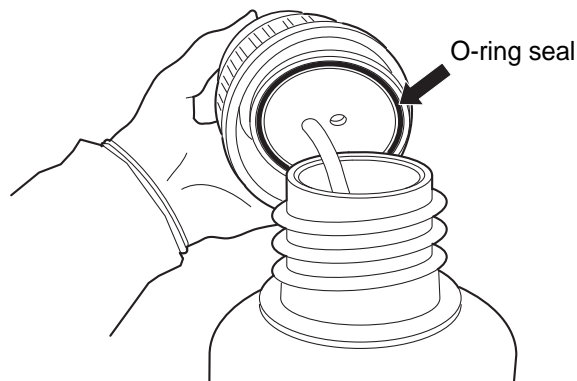

Figure 8-13 Inspect Waste Bottle O-Ring Seal
4. Before reattachment, inspect the O-ring seal on the inside of the waste cap for debris. See Figure 8-13.